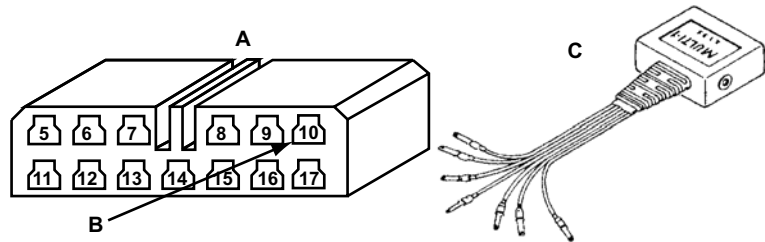

Figure 15-21 13-pin Check connector
- Connect the blue wire of the MULTI-1 adapter to pin 10 of the Check connector (Figure 15-21).